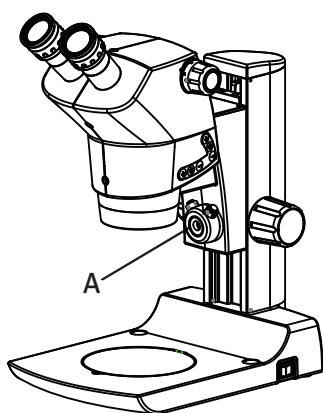

Fig.2
1. Open the dummy Goose neck mount using 4.0mm Allen wrench and secure the coupling connectors carefully (A) refer fig. 2.